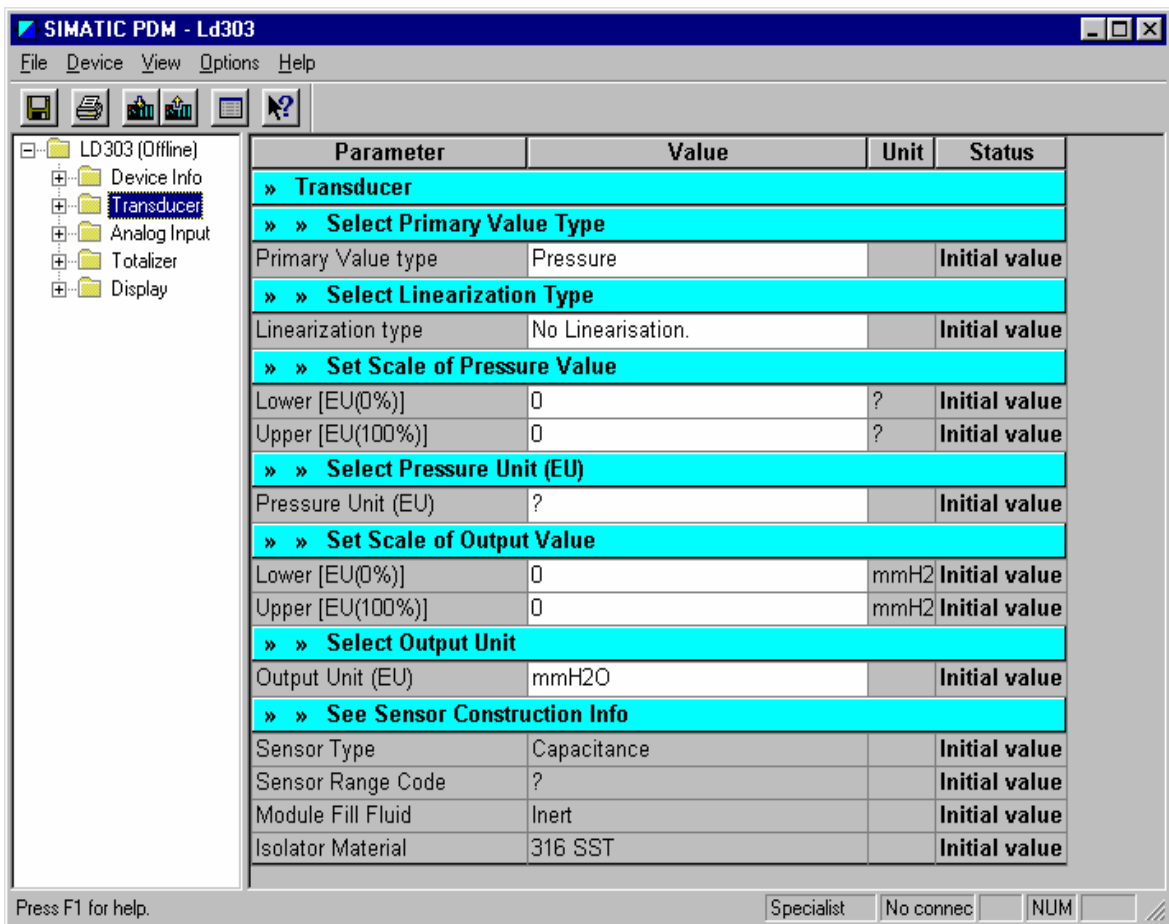

Figure 2.9 - Simatic PDM - Preset values for the device
- 5- White field can be changed by the user. See Figure 2.9.